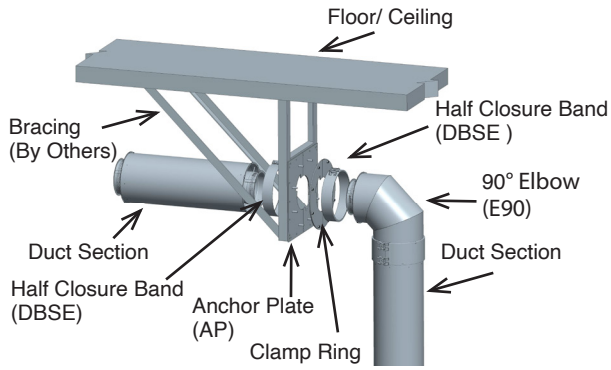
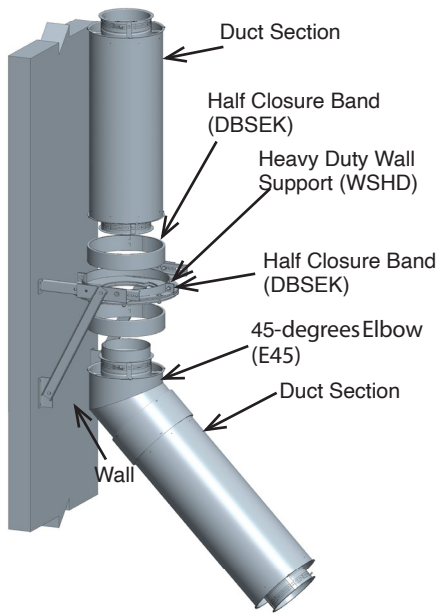

Figure 105: Elbow with an Anchor Plate (AP)
Figure 106: Elbow with an Heavy Duty Wall Support (HDWS)
Elbows are to be supported on one end with either an Anchor Plate (AP), an Anchor Plate with Length (APL), or a Heavy Duty Wall Support (WSHD). See Figure 105 for an example with an AP and Figure 106 for an example with a (WSHD).